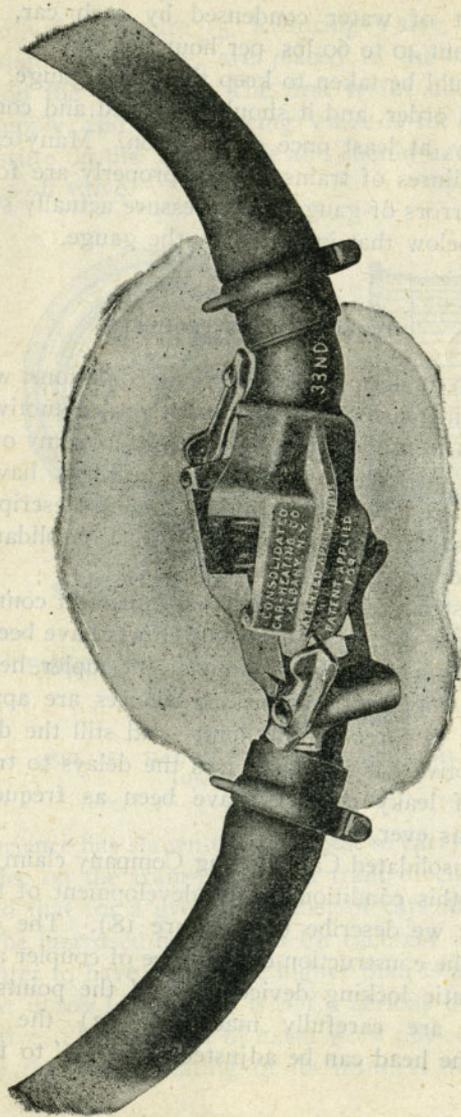

FIG. 18. COUPLING OF HEADS.
The Consolidated Car-Heating Company claim to have overcome this condition by the development of the type of coupler we describe (see Figure 18). The essential points in the construction of this type of coupler are: (1) an automatic locking device, (2) all the points of engagement are carefully machined, (3) the opening through the head can be adjusted from  $1\frac{1}{4}$ ' to  $1\frac{1}{2}$ ', (4)